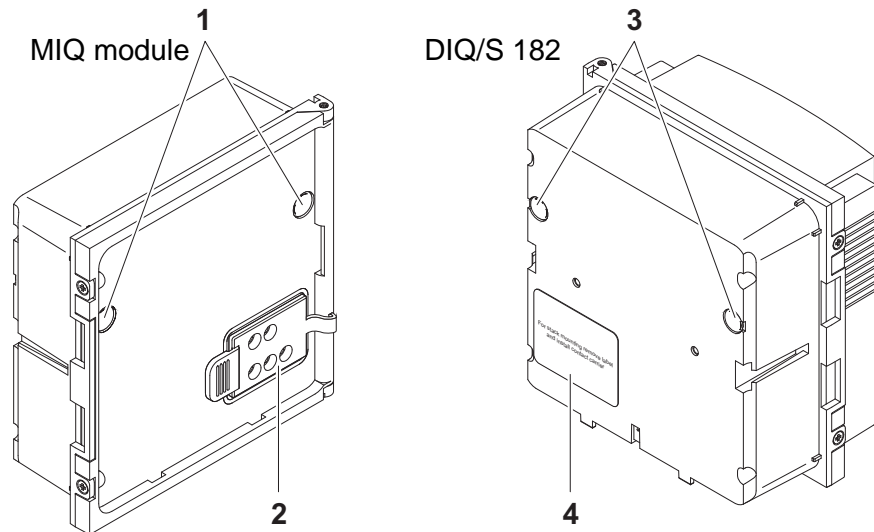

Fig. 3-1 Preparing MIQ modules for stack mounting (variant 1)
1	Remove the covers from the drilled mounting holes (pos. 1 and 3 in Fig. 3-1).